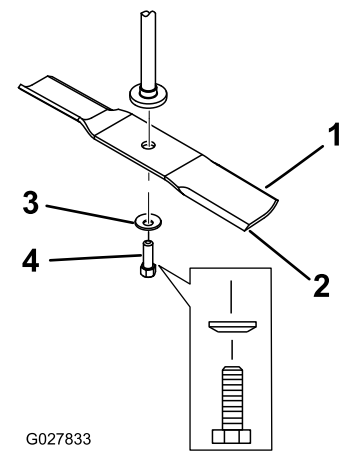

Figure 57
2. Remove the blade bolt, the curved washer, and the blade from the spindle shaft (Figure 57).
1. Install the blade onto the spindle shaft (Figure 57).
2. Install the the curved washer (cupped side toward the blade) and the blade bolt (Figure 57).